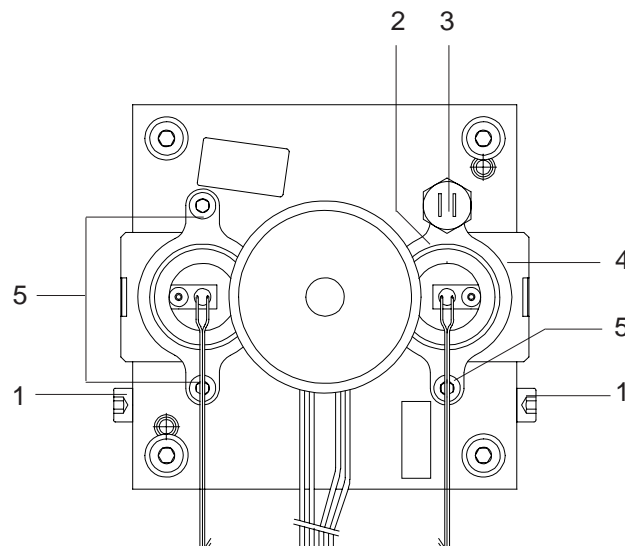

Fig. 22-1: Analyzer Photometer Assembly
- Remove the two screws shown in Fig. 22-1 as Item 1.
- Remove the two light source mounting screws (shown in Fig. 22-1 as Item 5) or the temperature sensor (shown in Fig. 22-1 as Item 3) resp.
- Insert and tighten the two light source mounting screws (shown in Fig. 22-1 as Item 5) or the temperature sensor (shown in Fig. 22-1 as Item 3) resp.
- Insert the photometer assembly into the analyzer housing and fasten in position using the mounting bracket screws (Fig. 22-1, Item 1).
- Slightly loosen the light source mounting screws (shown in Fig. 22-1 as Item 5) or the temperature sensor (shown in Fig. 22-1 as Item 3) resp. for channel 1 or channel 2.
- Set the zero - level precisely to 0 V (\pm 100 mV) by turning the corresponding light source. If the turning of the light source is not sufficient, the zero point can be adjusted by sliding the zero - level adjustment baffle (Fig. 22-1, item 4).
- Tighten the light source mounting screws (shown in Fig. 22-1 as Item 5) or the temperature sensor (shown in Fig. 22-1 as Item 3) resp. for channel 1 or channel 2.